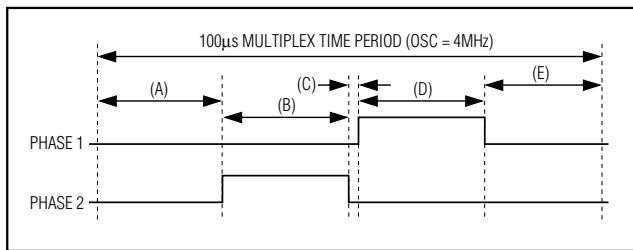

Figure 14. Filament Bridge Driver Timing Waveforms
The waveform generation uses PWM to set the effective RMS voltage across the filament, as a fraction of the external supply voltage (Figure 14) (Table 36). The filament switching frequency is synchronized to the multiplex scan clock, eliminating beating artifacts due to differing filament and multiplex frequencies.
The minimum commutation time, shown at (C) in Figure 14, is set by $(2/\text{OSC})$ s (500ns when $\text{OSC} = 4\text{MHz}$) to ensure that shoot-through currents cannot flow during phase reversal. Otherwise, the duty cycle of the bridge (total on time: total time) sets the RMS voltage across the filament. This technique provides a low-cost AC filament supply when using a regulated supply higher than the RMS voltage rating of the filament.